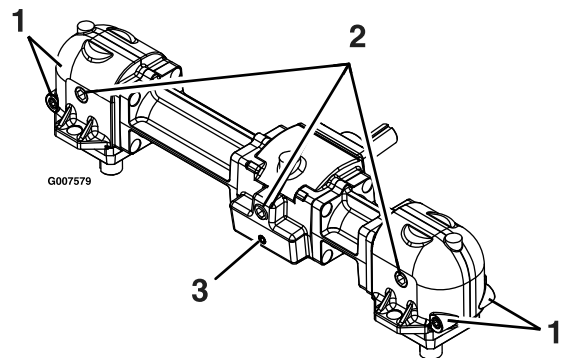

Figure 13
- Remove the large oil drain plug on the front of each of the three gearbox sections and drain oil (Figure 13).